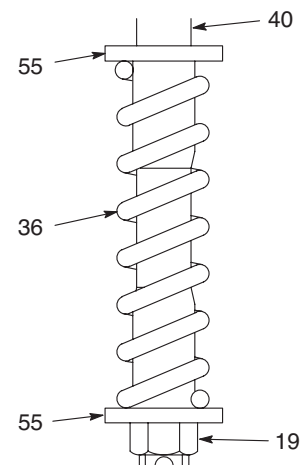

FIG. 7
- Visually inspect the spring (36). If there is wear or damage, proceed with this step. Remove the nut (19), spring (36), and retainers (55) from the trip rod (40). Reassemble with a retainer (55) on each end of the new spring (36). Thread the nut onto the rod until it runs out of thread so that it bottoms out on the shoulder of the rod. (FIG. 7)